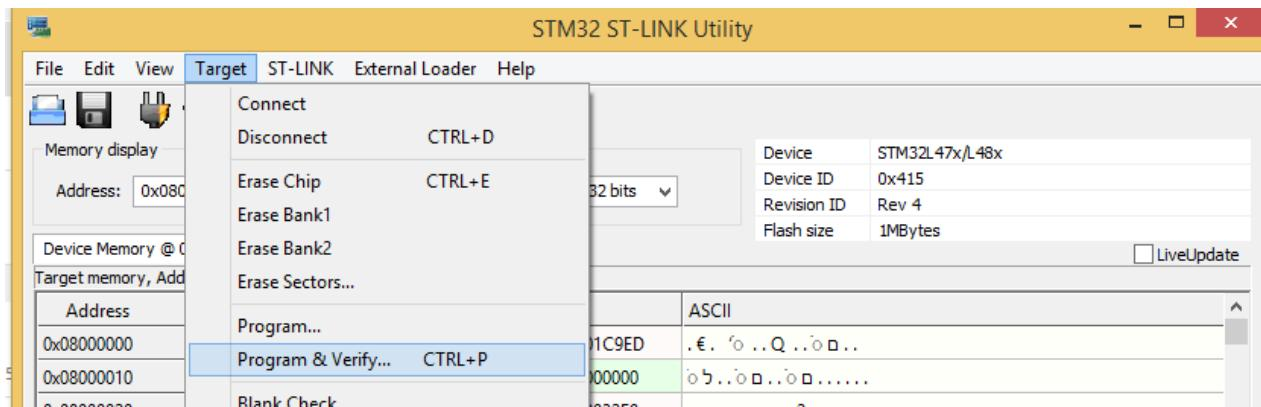

Figure 38: Program & Verify in STM32 ST-Link Utility
6. Click on “Target->Program & Verify”. See figure 38.